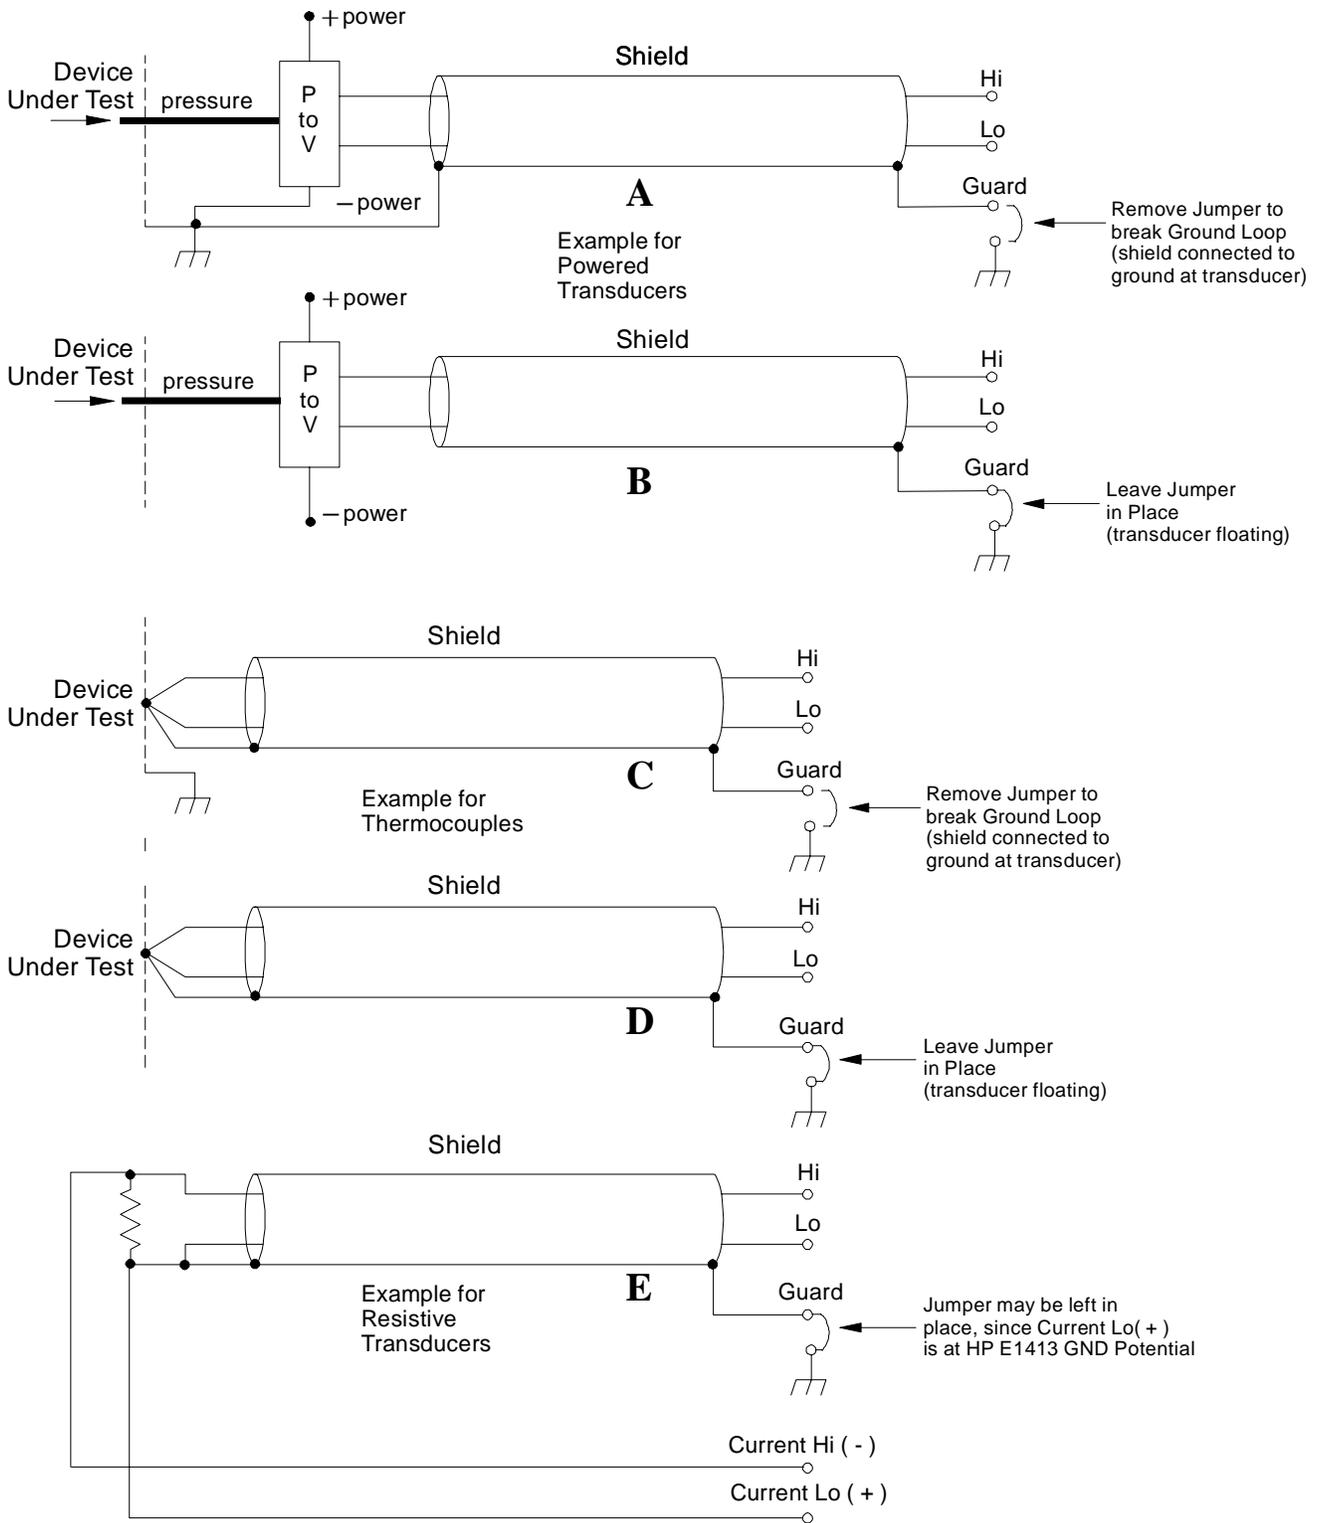

Figure 2-8. Preferred Signal Connections
For any Scanning A/D Converter module to scan channels at high speeds, it must use a very short sample period (<10 μ second for the HP E1413). If significant normal-mode noise is presented to its inputs, that noise will be part of the measurement. To make quiet, accurate measurements in electrically noisy environments, use properly connected shielded wiring between the A/D and the device under test. Figure 2-8 shows recommended connections for powered transducers, thermocouples, and resistance transducers. (See Appendix F for more information on wiring techniques).
- a. **Grounded Transducer with shield connected to ground at the transducer:** Low frequency ground loops (DC and/or 50/60 Hz) can result if the shield is also grounded at the terminal module end. To prevent this, remove the GND-GRD jumper for that channel (Figure 2-8 A/C).
- b. **Floating Transducer with shield connected to the transducer at the source:** In this case, the best performance will most likely be achieved by leaving the GND-GRD jumper in place (Figure 2-8 B/D).